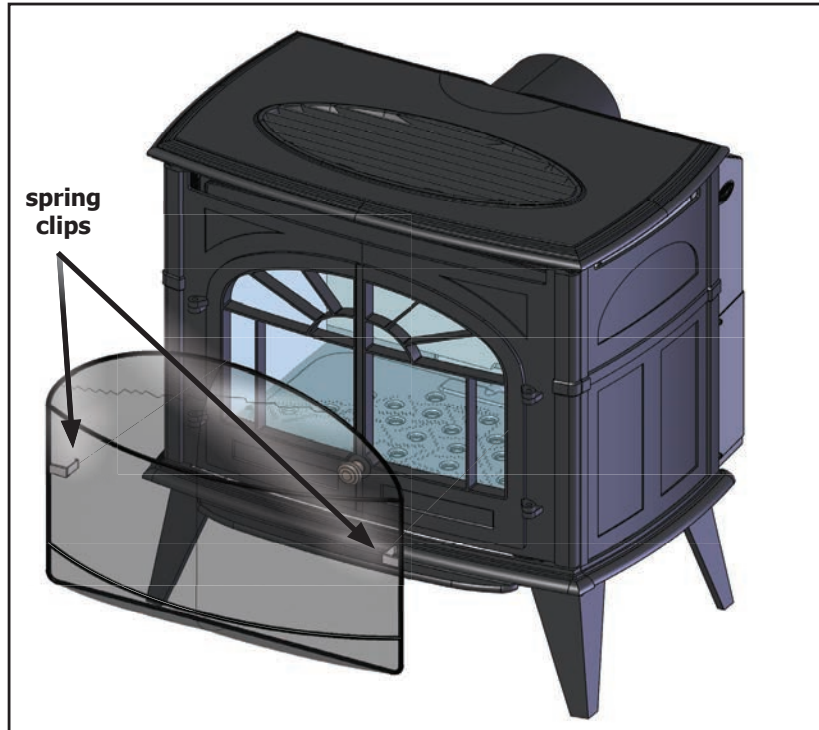

Figure 66: Safety Screen Installation
1. Align the spring clips on the side of the screen with the inside edge of the cast door (see figure 66)